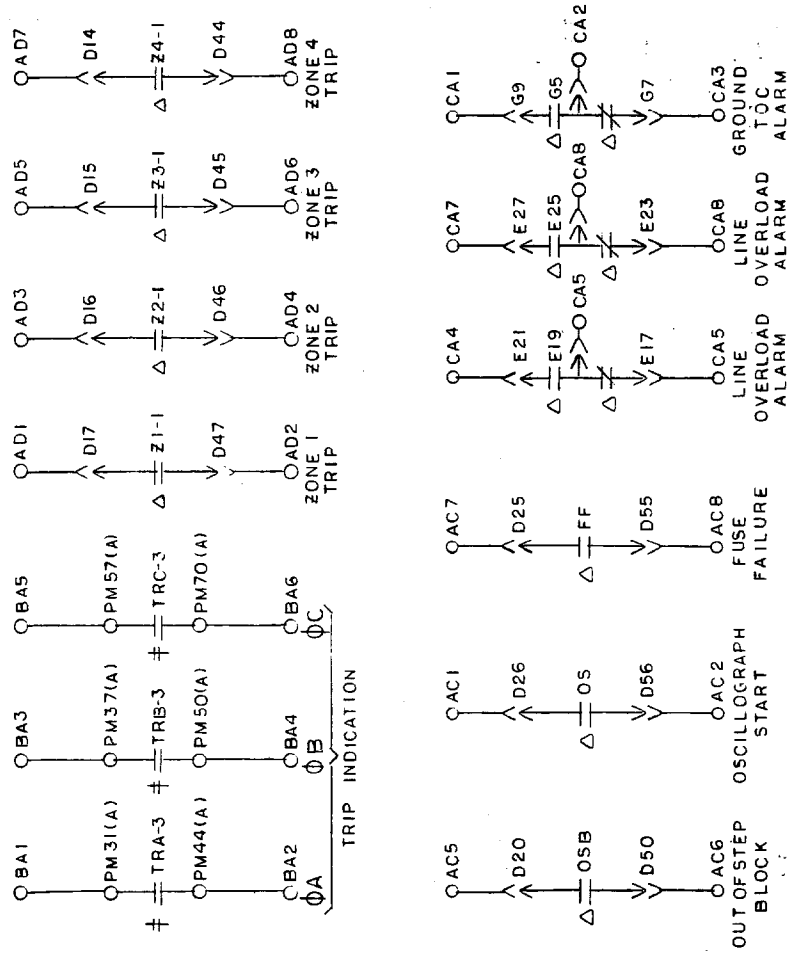

Fig. 3D (0138B7775, Sh. 4, Rev. 1) Elementary Diagram - Alarm Indication and Channel Connections
- Fig. 3D (0138B7775, Sh. 4, Rev. 0) Elementary Diagram - Alarm Indication and Channel Connections